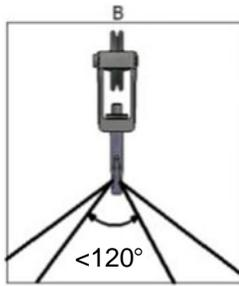

Figure 34: Lifting wire maximum angle
- Never exceed 120° between the lifting wires at any time (**Figure 34**).